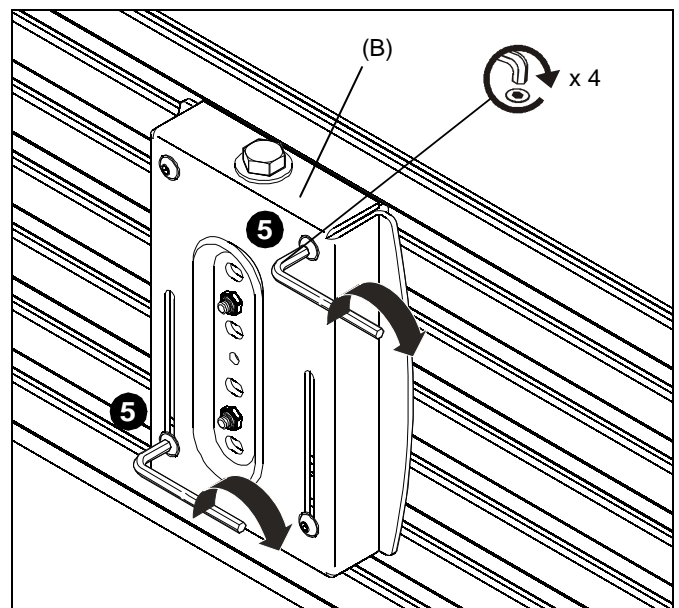

Figure 3
5. Tighten two upper and two lower button head cap screws to secure wall bracket (B) to wall. (See Figure 3)